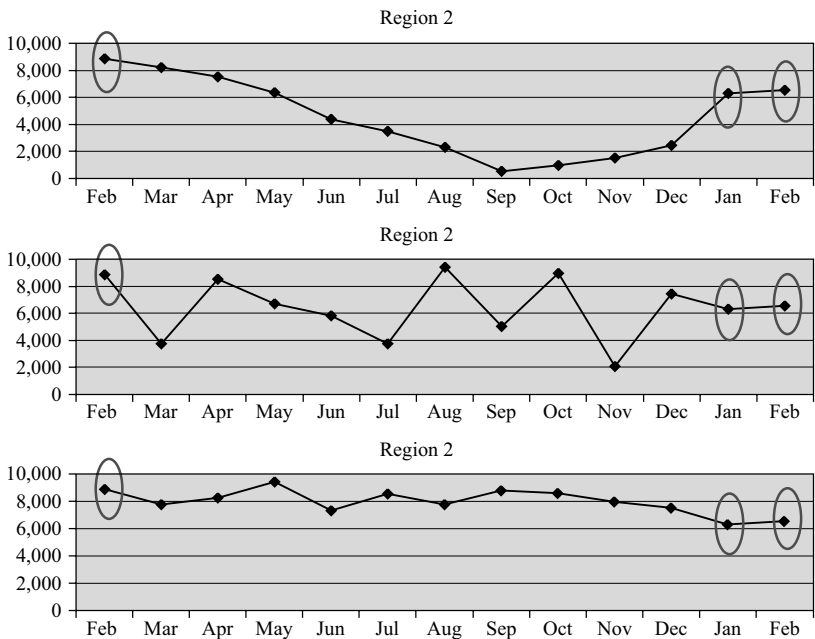

Figure 13-2 Data Trends over Time
Most companies are managed from PFN (pages full of numbers), which can enable two behaviors: (1) reacting unnecessarily to the usual random variation and (2) not acting on an important trend or event. Quite often we see what we refer to as "three-point data"—this month, last month, and this month last year. The three charts in Figure 13-2 all have the same data points for January and February this year and February last year; however, we're willing to guess that you interpret them as highly different (recovery, random variation, and a slow slide downhill). Three points don't tell any of the three stories well!